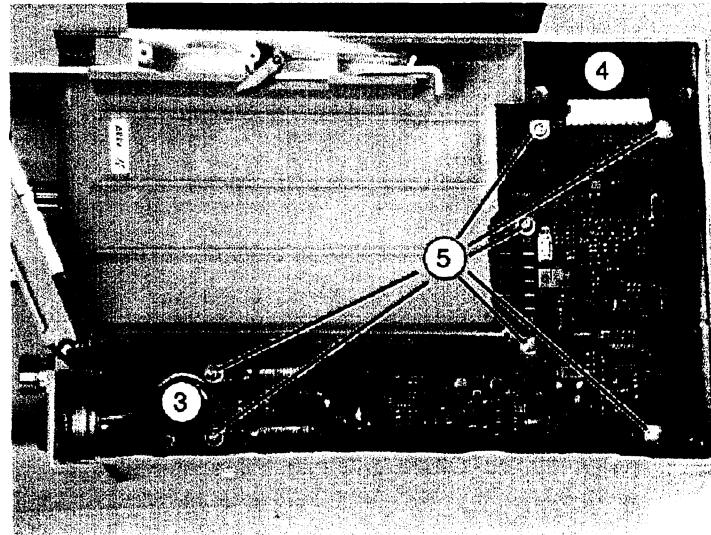

Fig. 3 View of charging circuit PCB
8. Remove connector Fig. 3/4.
9. Remove the charging circuit PCB fixing screws Fig. 3/5.
11. Unsolder cable Fig. 3/3 of power supply socket on charging circuit PCB.